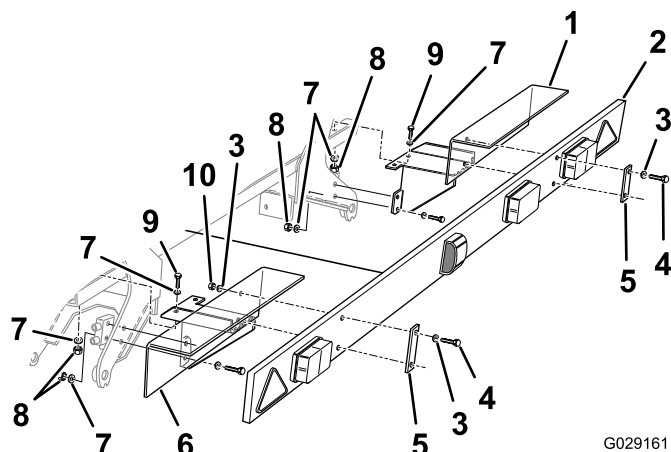

Figure 14
1. Assemble the light-board brackets to the rear of the machine, using 4 bolts (M8 x 80), 8 washers (M8), and 4 locknuts (M8), as well as the 2 fasteners holding the diverter valves for the two rear corner cutting units (cutting units 1 and 5 for Model 02700; cutting units 2 and 6 for Model 02701) to secure the lower part of the bracket as shown (Figure 14).
2. Fit the light board to the brackets and secure it using 2 light-board securing plates, 4 bolts (M10 x 40), 8 washers (M10), and 4 locknuts (M10); refer to Figure 14.